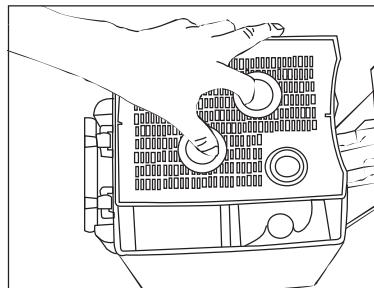

fig 11
- Remove the lid of the filtering materials by inserting your fingers into the appropriate holes to facilitate the operation (fig. 11).
N.B.: before dosing the hooks or forcing the safety levers, make sure that the filtering material are in their proper position, that the containers of the filtering materials overlap perfectly (i.e. that no materials protrude) and that the lid of the filtering materials (fig.11) is in the correct position.